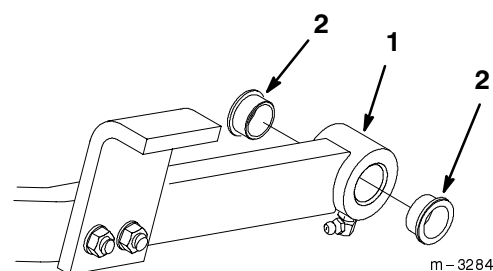

Figure 40
4. Insert a pin punch into the push arm and carefully drive out the bushings (Fig. 40). Clean the inside of the push arm.
5. Use a hammer and flat plate to carefully drive new bushings into the end of push arm (Fig. 40).